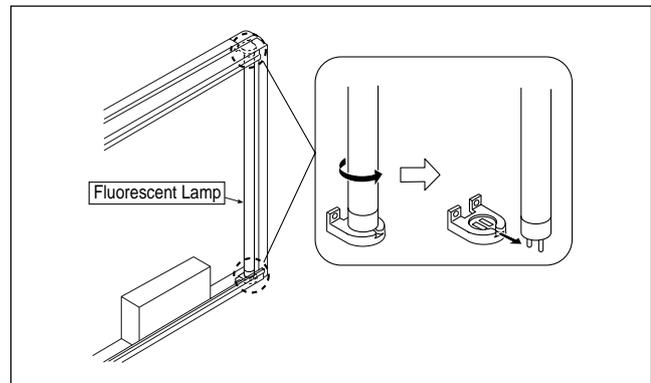

Fig. 3
### 2) Remove the Fluorescent Lamp. (See Figure 3.)
1. Rotate the Fluorescent Lamp as shown in Figure 3 and remove it from the lamp socket.